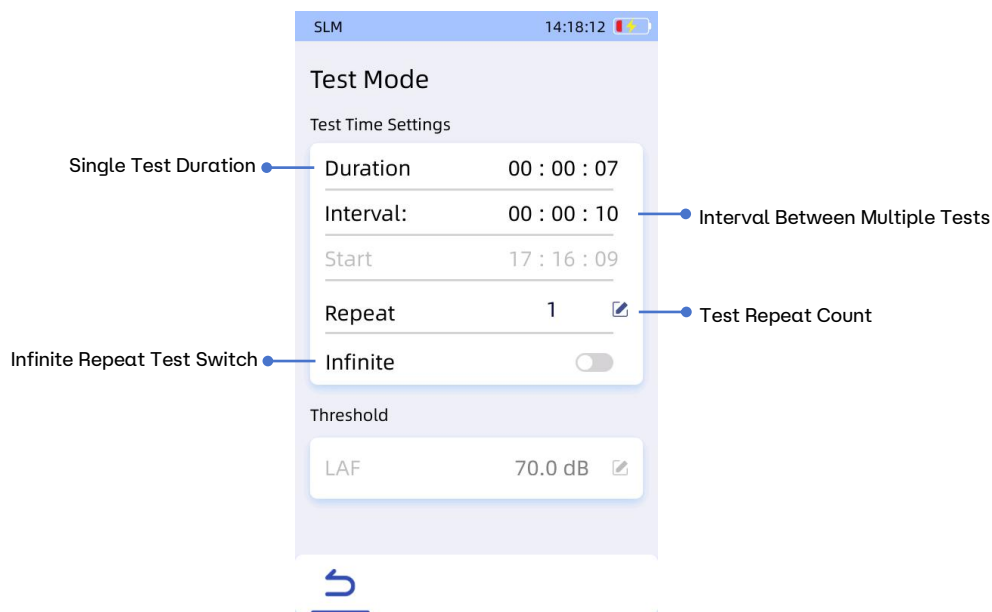

Fig 6.15 Automatic Mode Parameter Settings
- b. Automatic Mode: After clicking the start test button in the main interface, the application will automatically conduct the first test based on the user's set duration. After the first test, it will conduct a second test after the user's specified interval, and so on. The number of repetitions refers to how many times the test will be conducted, as set by the user. If the user enables the infinite repeat option, the automatic tests will continue indefinitely until the user manually stops them. When automatic testing is selected, the settings interface for the test mode will appear as shown in Figure 6.15, where the start test duration cannot be edited.
Click "Data Playback" to enter the interface shown in Figure 6.15. In this mode, users can filter the data according to a time interval and click on the corresponding data for a preview. The function buttons above include: Select, Select All, and Delete, allowing users to manipulate the data. Additionally, the data playback interface can also facilitate printing operations, as detailed in the appendix "Using the Printer."
Clicking "Data Playback" takes you to the interface shown in Figure 6.15. In this mode, users can filter data based on time intervals and click on specific data points for preview. The upper function buttons include: Select, Select All, and Delete, allowing users to manipulate the data. Additionally, the data playback interface can facilitate printing operations, as detailed in the appendix "Using the Printer."